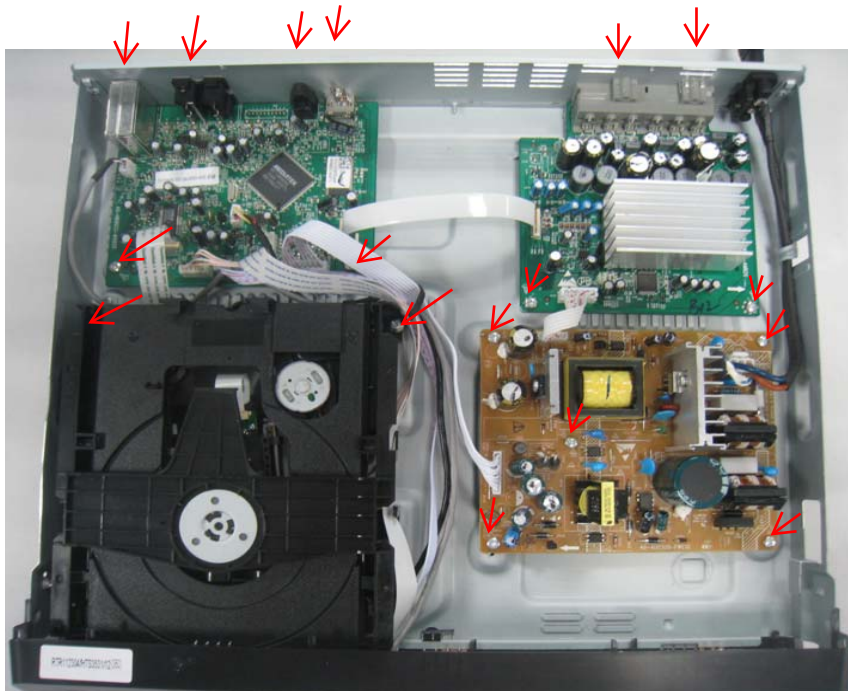

Figure 5
Step5: Dismantle Loader, disconnect the 3 connectors (XP2, XP3, XP6) aiming in the below figure, and remove 2 screws that connects the loader and the bottom cabinet. (Figure 5)
Step6: Dismantle Main Board, first disconnect 2 connectors (XP1, XP11), and then remove 6 screws. (Figure 5/6)
Step7: Dismantle Power Board, disconnect the connectors XS703 and CN501 on Power Board, then remove 5 screws. (Figure 5/6)
Step8: Dismantle Amplifier Board, remove 4 screws (Figure 5/6)